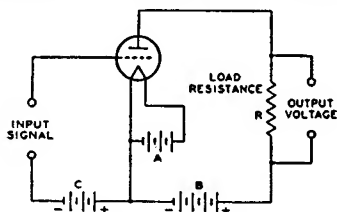

Fig. 14—Triode amplifier circuit.
The plate current flowing through the load resistance (R) of Fig. 14 causes a voltage drop which varies directly with the plate current. The ratio of this voltage variation produced in the load resistance to the input signal voltage is